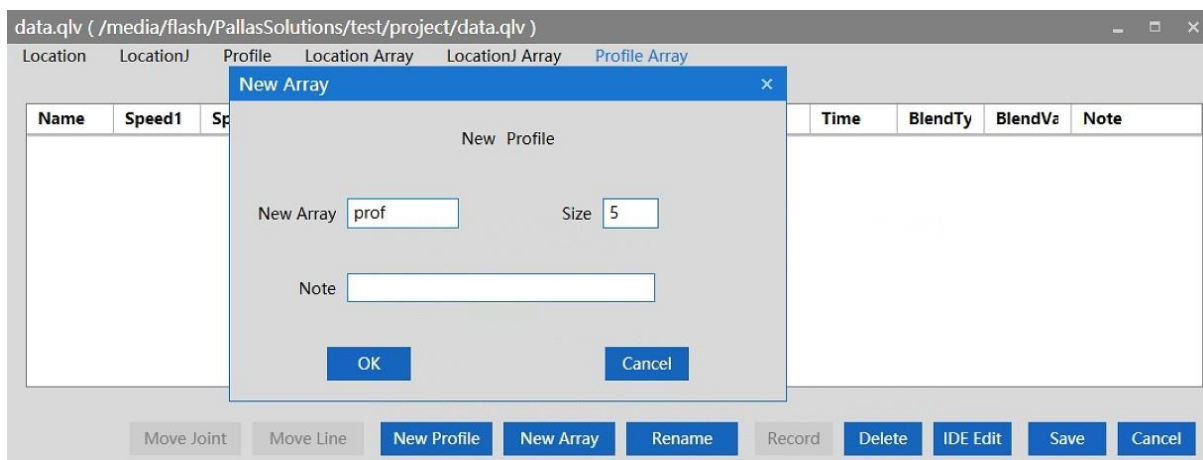

Figure 6-40 New Profile Array
Step 6 New Profile Array; Click "New Array" in "Profile Array", and the "New Array" interface will pop up. Enter the array name and array length, and click "OK", as shown in Figure 6-40.